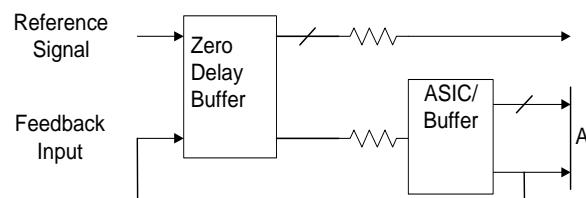

Figure 2. 6 Output Buffer in the Feedback Path
Referring to *Figure 2*, if the traces between the ASIC/Buffer and the destination of the clock signal(s) (A) are equal in length to the trace between the buffer and the FBIN pin, the signals at the destination(s) device will be driven high at the same time the Reference clock provided to the ZDB goes high. Synchronizing the other outputs of the ZDB to the outputs from the ASIC/Buffer is more complex however, as any propagation delay in the ASIC/Buffer must be accounted for.